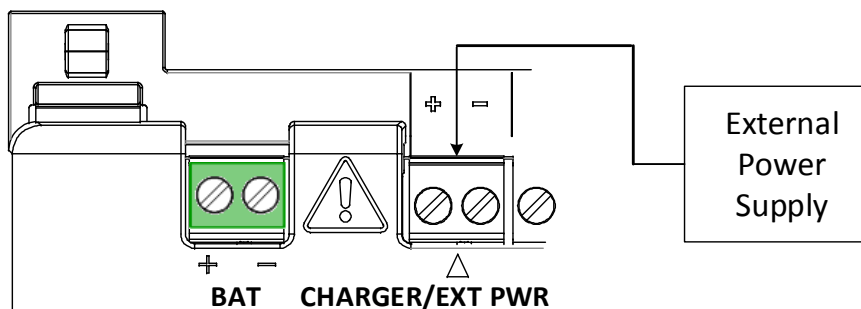

Figure 23: External power supply
2. Connect the external power supply cable to the terminals (Figure 23). Observe the polarity (+ and -).